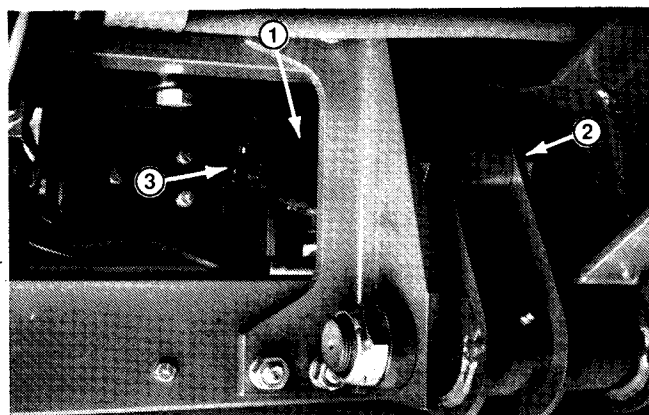

Figure 41
3. Remove nut and bolt securing front of cylinder (Fig. 41). Remove cotter pins and cylinder pin securing rear of cylinder.